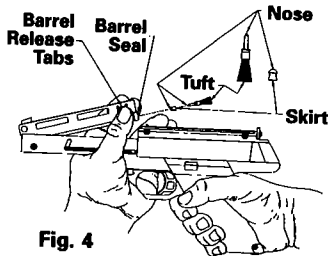

Fig. 4
- Open the barrel by squeezing the barrel release tabs until the barrel pops open as shown in Fig. 4. **DO NOT PULL THE BARREL UPWARD BEYOND THIS POINT.** This could damage your air pistol.
- Insert a .177 caliber pellet or dart, nose first into the barrel. Fig. 4. Use ammo seater (included in owner's manual packet) to push pellet or dart until shoulder of ammo seater is flush with barrel seal.